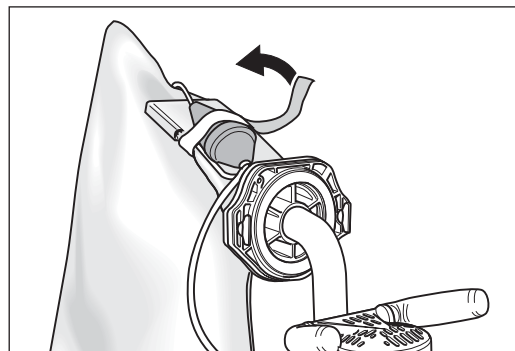

Fig. 8 Attach the extension cable coupler to the dust bag.
- 2 Attach the extension cable coupler to the dust bag using the Velcro loop (fig. 8).